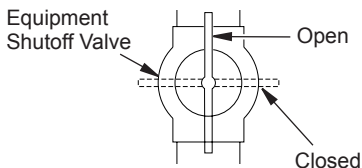

Figure 52 - Equipment Shutoff Valve
1. Close equipment shutoff valve (see Figure 52).
1. Open equipment shutoff valve (see Figure 52, page 28).